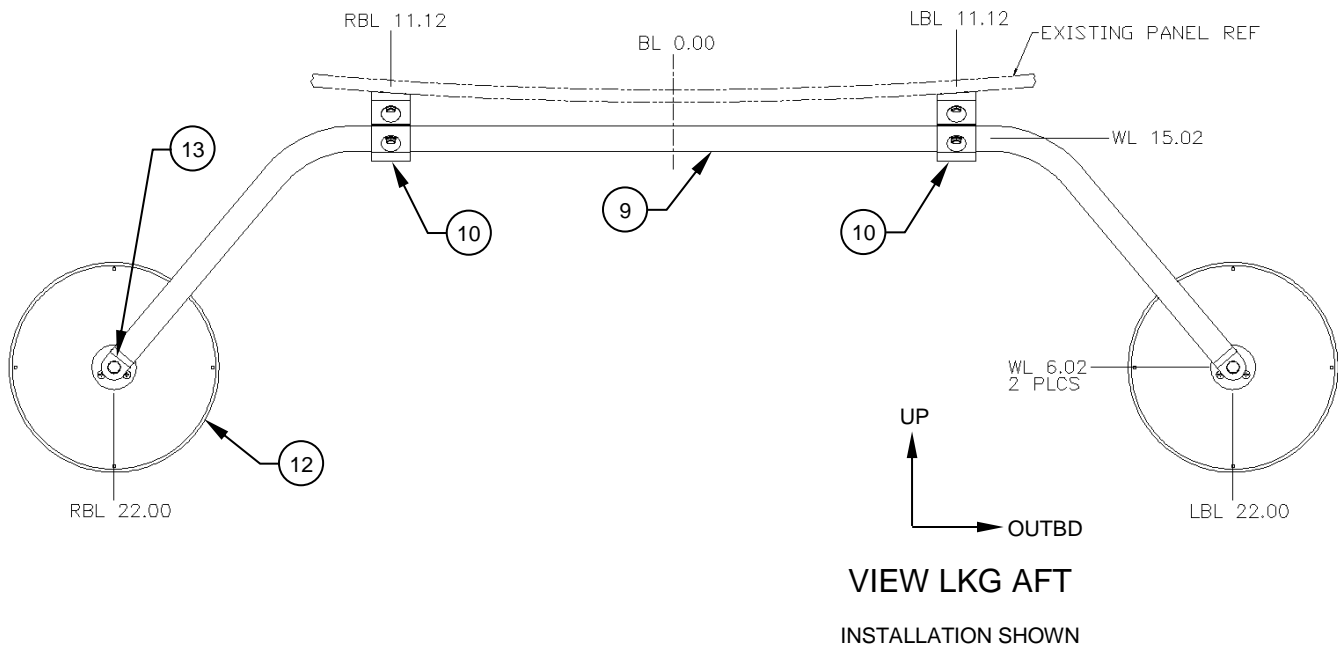

Figure 4
9. Install Mirror, Assys (Item 12) on the Crosstube, Assy (Item 9). Reference Figure 4.